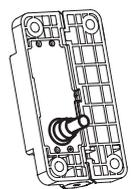

Fig.1
Max 180° (0° and +180° being 0° the condition where the two interconnected surfaces are on the same plane fig.1). The switching angle (see Built-in safety multiple switch functioning and maintenance) is guaranteed from this position. The condition where the two interconnected surfaces are on the same plane is to be strictly verified because the hinge must not be stressed by any negative angle (fig. 2).
- The hinge must not be used as a mechanical end-stroke either for door maximum opening or for closed door. For this purpose we recommend using external mechanical stops to prevent the door from opening completely against the hinge body assembled on the frame (fig.1) or exceeding the angle where the two interconnected surfaces are on the same plane (fig.2).